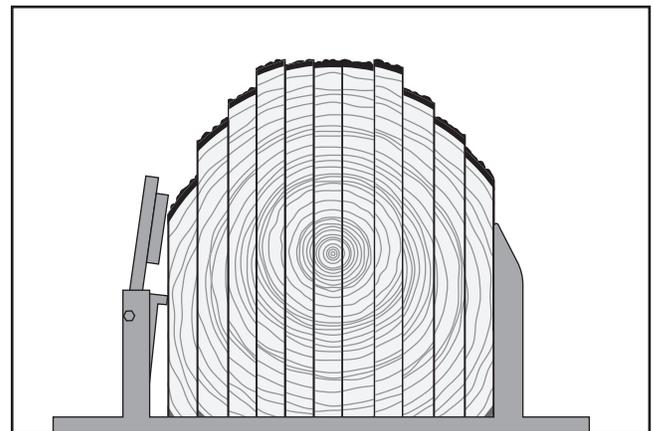

Figure 88. Flitches secured to track in preparation for second edging.
5. Clamp single-edged flitches to track bed, using flat edges and log supports to ensure flitches are perpendicular to track (see **Figure 88**).